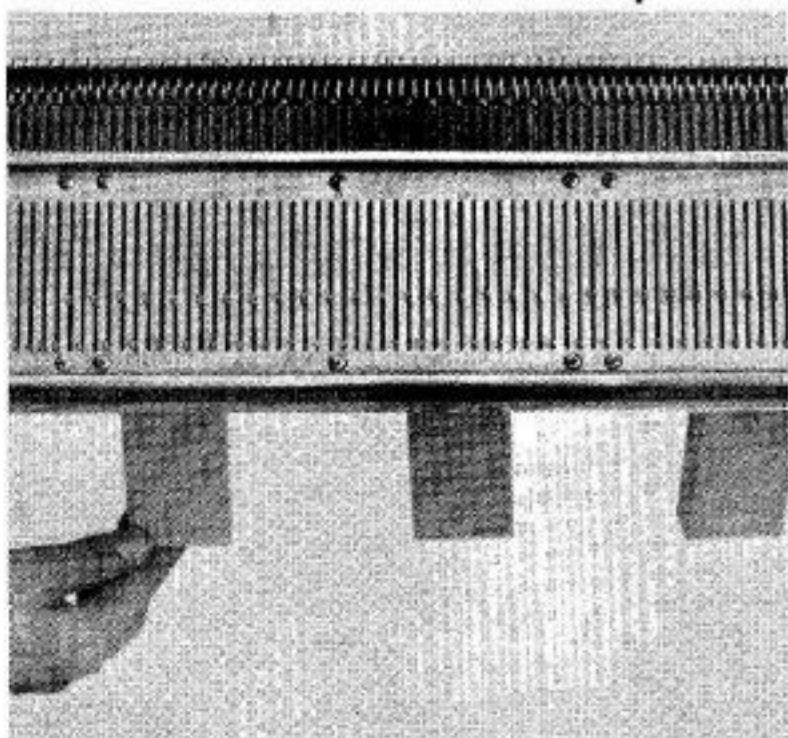

Fig. 42
(Fig. 42)
6. Hang two or more weights—according to the width of the fabric—onto the comb. Make sure when attaching the weights that the comb remains suspended in a horizontal position. (see Fig. 42)